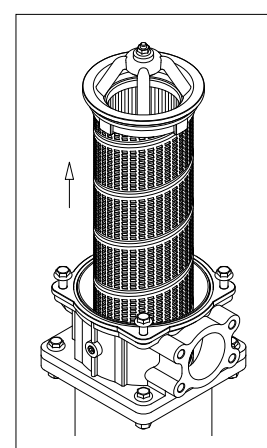

fig. 23
- (Fig. 23) Pull the internal filter out after placing a vessel to collect the operating fluid